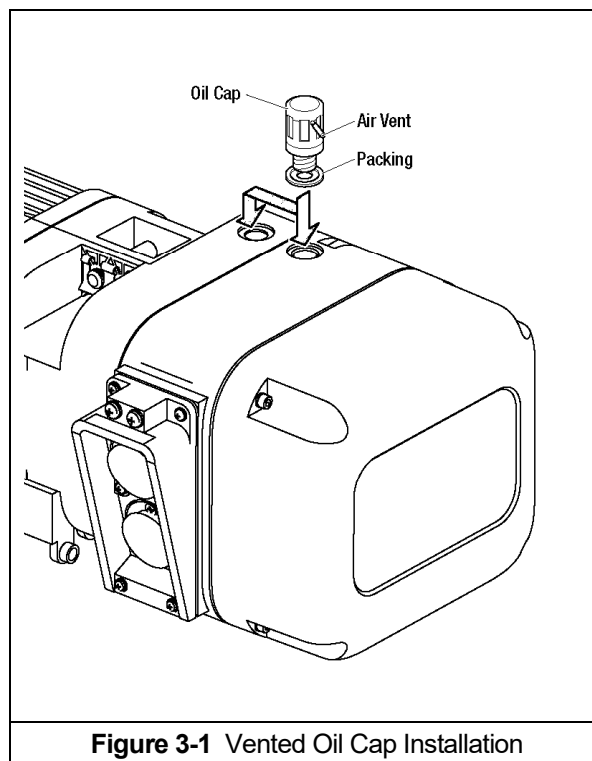

Figure 3-1 Vented Oil Cap Installation
- 3.1.3 All ER2, mechanical load brake equipped hoists, are shipped with a separate air vented oil cap. This vented oil cap must be installed prior to use. To install, remove an existing oil plug and replace it with the vented oil cap (refer to Figure 3-1).
- 3.1.4 There are two oil fill holes located in the top of the gear case on the ER2 hoist. For ER2 coupled to MR2 trolley, there are some flange widths that make it necessary to relocate the oil cap assembly to the other oil fill hole. This will prevent interference with the trolley side plate. Refer to Figure 3-1.